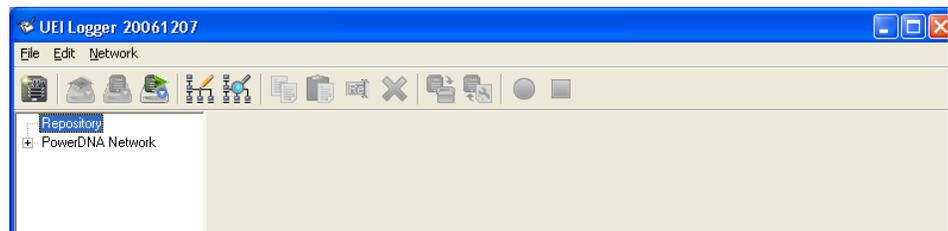

Figure 2-14. UEILogger Initial Screen
- STEP 2:** On the PC, locate the DNALogger.exe file. Double-click the file to start execution. The screen shown in **Figure 2-14** appears.